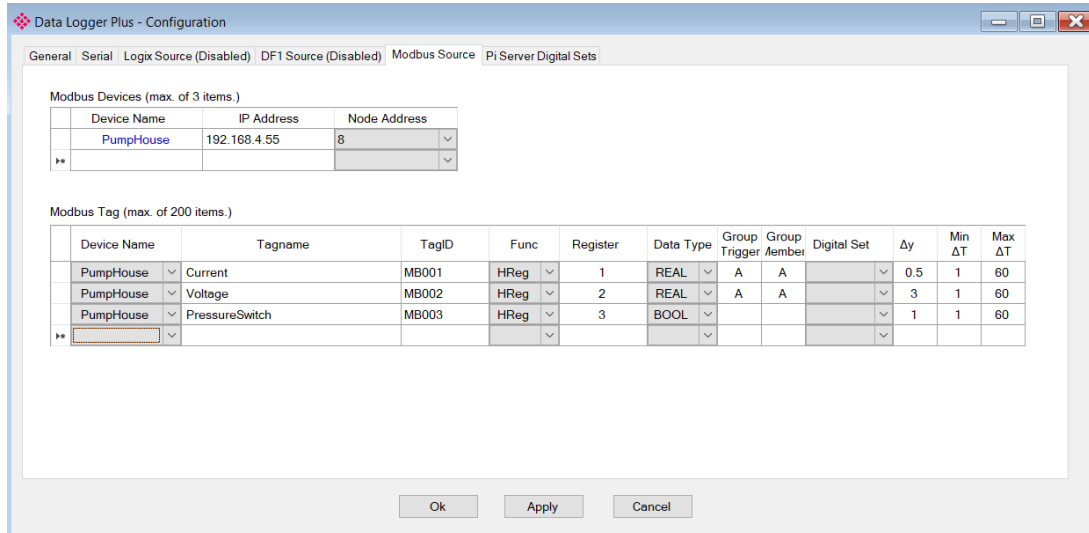

Fig 3.24 – Modbus Source Configuration
- To launch the *Tag Browser*, click the **BROWSE TAGS** button associated with the controller. Tags that are were already selected and identified are highlighted in green. See Fig 3.24.